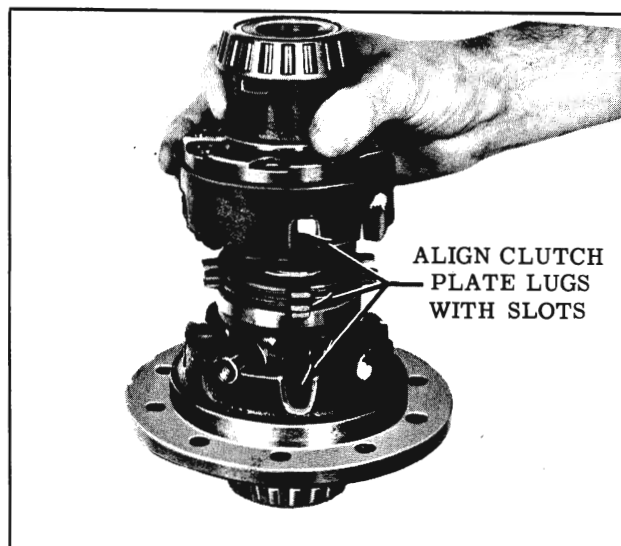

Fig. 6-118 Positioning Clutch Plates in Case
5. Install proper clutch pack and side gear stack in the case, aligning clutch plate lugs with notches in case. (Fig. 6-118)